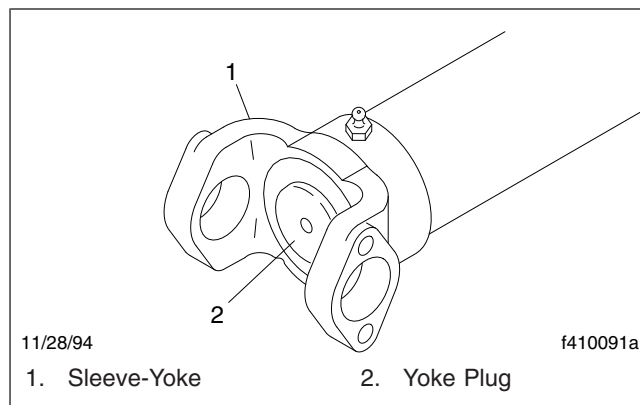

Fig. 2, Sleeve-Yoke Plug
4. Check for a loose or missing sleeve-yoke plug. See Fig. 2. Repair or replace the plug as needed.